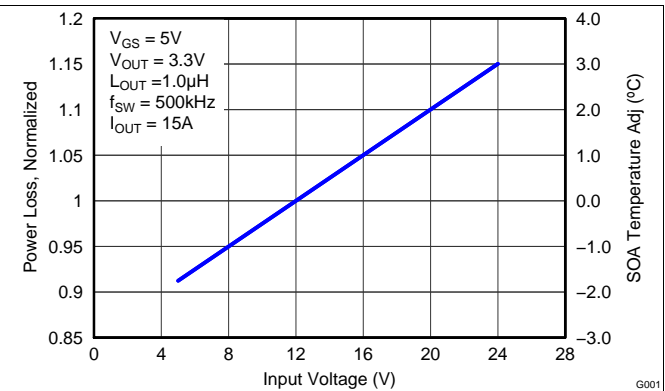

Figure 7. Normalized Power Loss vs Input Voltage
- Normalized power loss for input voltage  $\approx$  1.1 (Figure 7)
- SOA adjustment for input voltage  $\approx$  2°C (Figure 7)